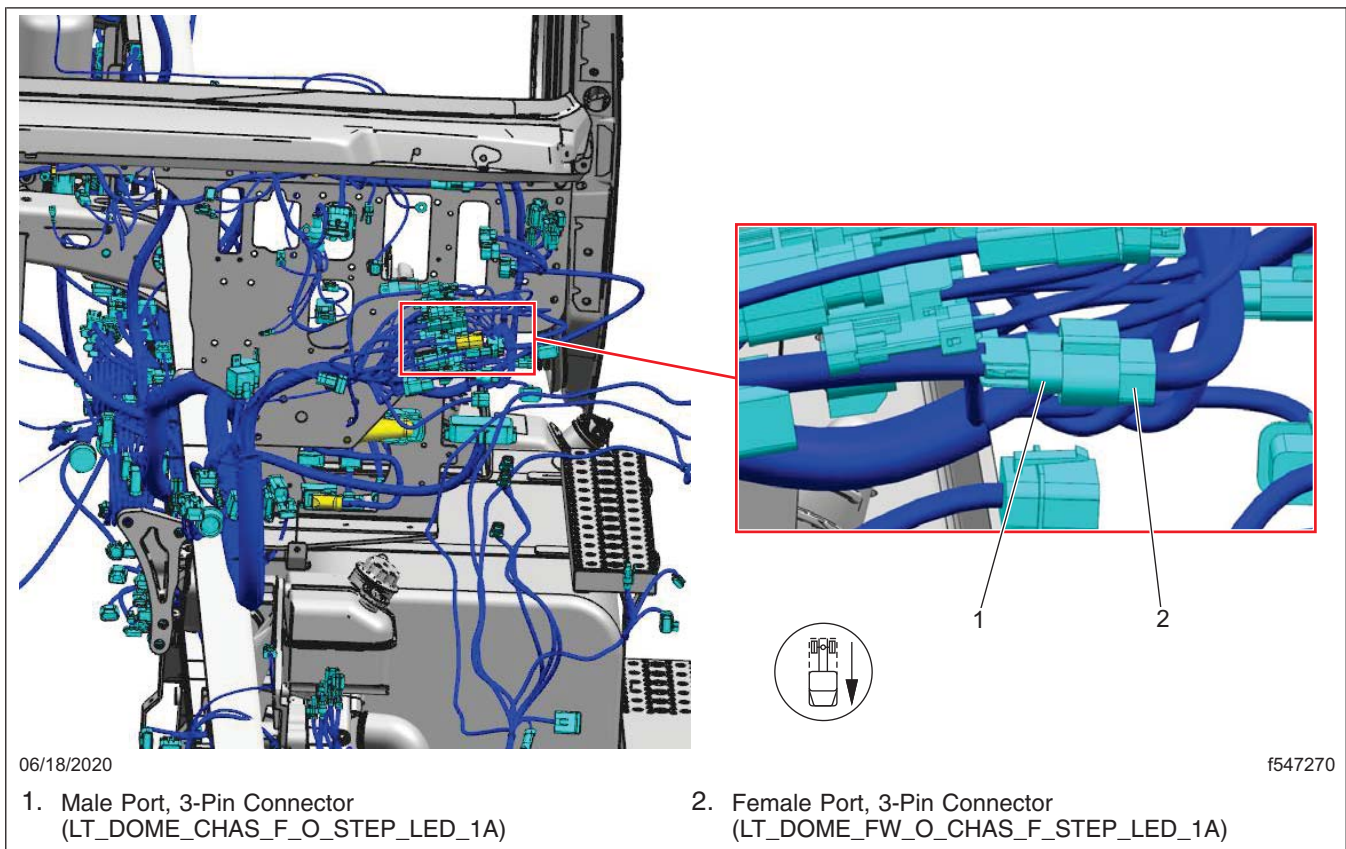

Fig. 1, 3-Pin Connector Location
4. Locate the 3-pin connector LT_DOME_FW_O_CHAS_F_STEP_LED_1A for the LED step light harness at the frontwall. The connector is located on the exterior frontwall near the left hood support. See **Fig. 1**.
5. On the frontwall side of the harness, remove the harness wrap and tape for about six inches to gain access to the wires within the LED step light harness at the 3-pin connector. The frontwall side of the harness connects to the 3-pin connector LT_DOME_FW_O_CHAS_F_STEP_LED_1A (P/N 23-13144-300) containing the female terminals. See Fig. 1.